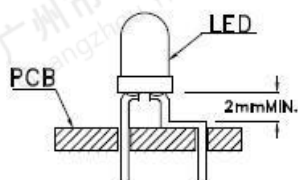
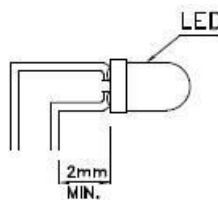

Fig. 5
Fig. 6
1. Maintain a minimum of 2mm clearance between the base of the LED lens and the first lead bend (Fig. 5 and Fig. 6).